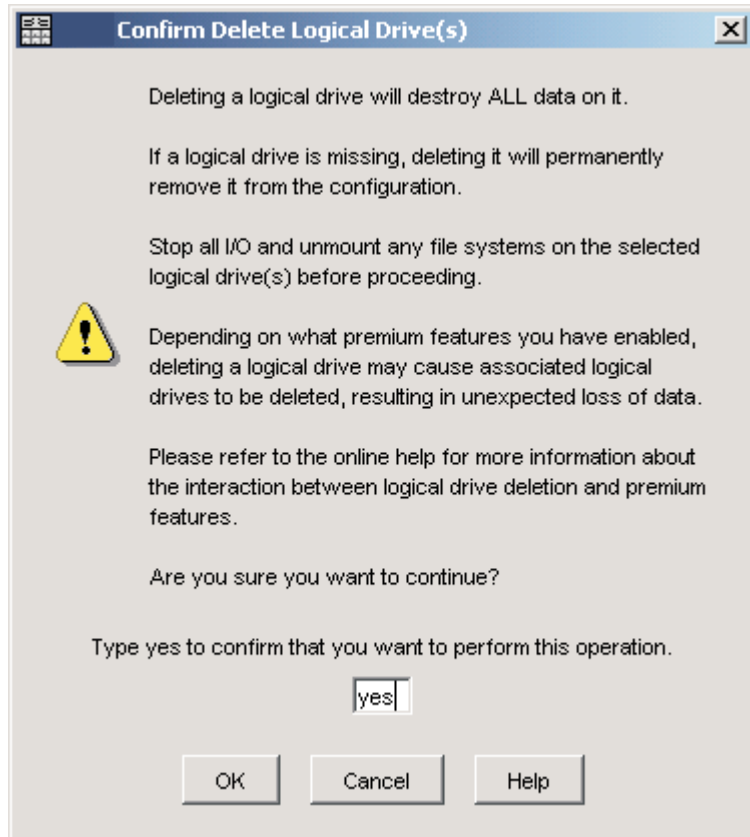

Figure 21. Delete FlashCopy Logical Drive window
3. The Delete FlashCopy Logical Drive window opens, as shown in Figure 21 on page 53. Type Yes and click **OK**.